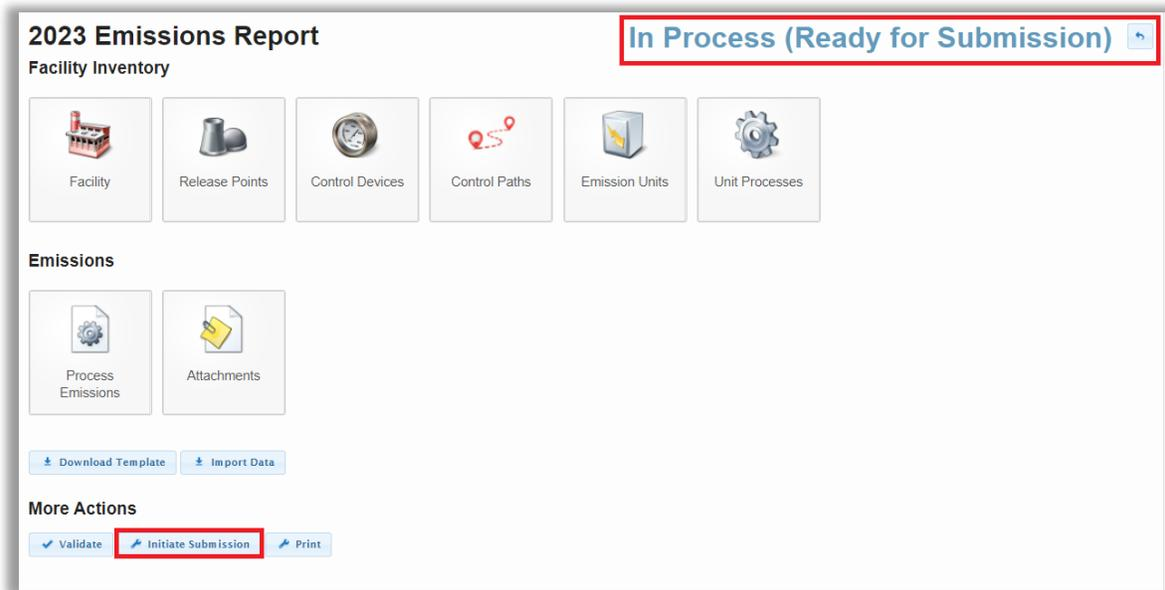

Figure 16-4 Initiate Submission
Step 4: Click **Initiate Submission** at the bottom of the Emission Report Screen shown in Figure 16-4.